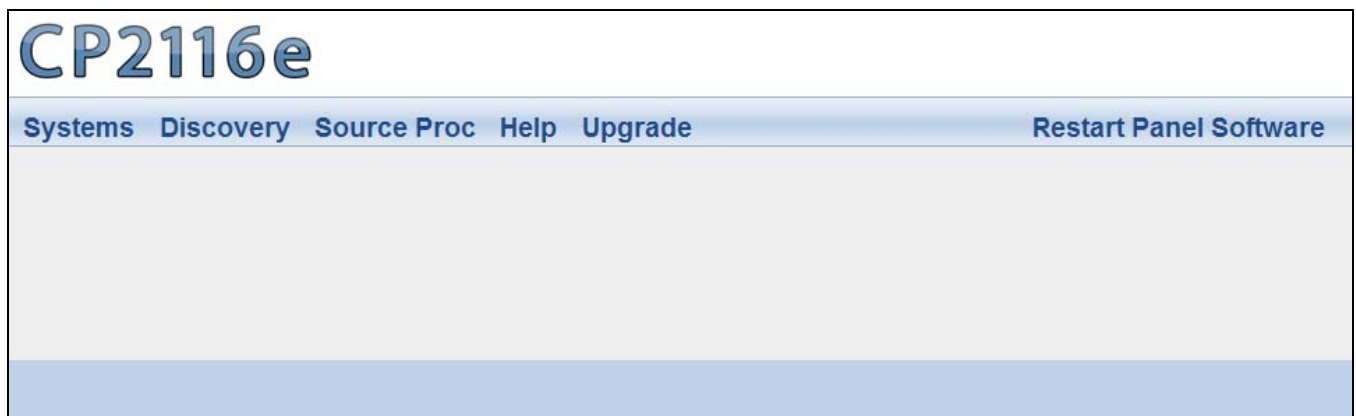

Figure 4-1: CP116e Web Interface
1. To upgrade firmware using the web interface, open a Firefox web browser and enter the IP address of the CP-2116E, then press the <enter> key. The CP2116e web interface will appear, as shown in Figure 4-1.